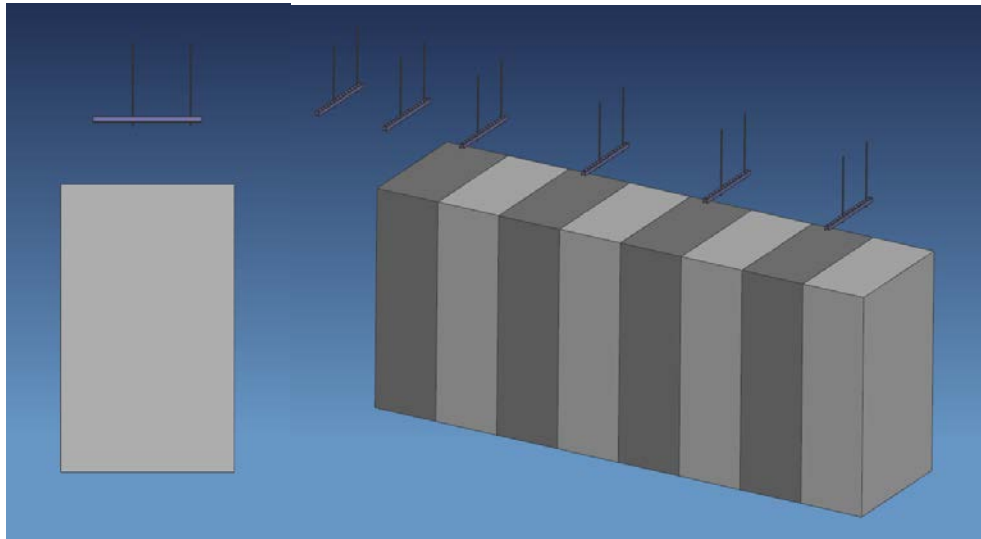
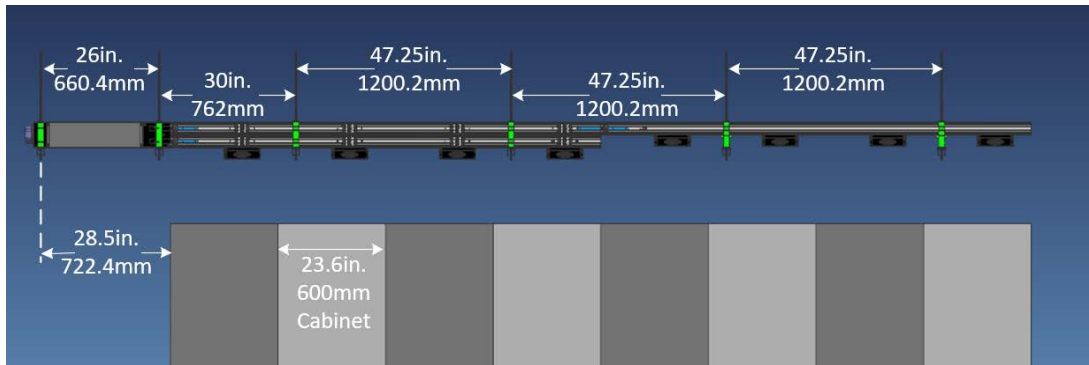

Figure 1 – Side view of cabinet and strut support and iso view of 8 cabinets with supports.
Figure 2 – Support Interval Diagram for 8 cabinet system
3. Use the Support Interval Diagram (Figure 1 and Figure 2) to validate that threaded rod mounting locations on ceiling are clear for installation.
1. Attach threaded rods to the building infrastructure according to the Support Interval Diagram (see Figure 1 and Figure 2).